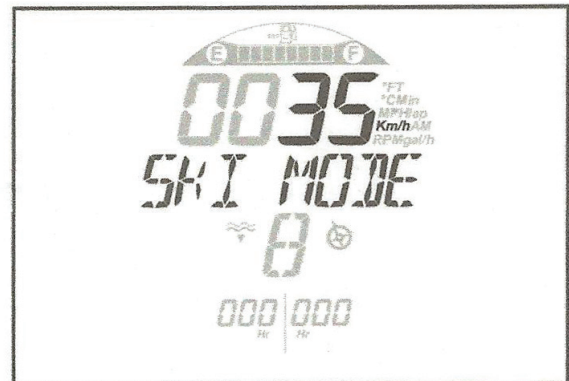

Figure D13: SKI MODE Displayed (w/Target Speed)
- f. Press SET button to confirm the speed. The indication SKI MODE will be displayed with the determined speed. See Figure D13.